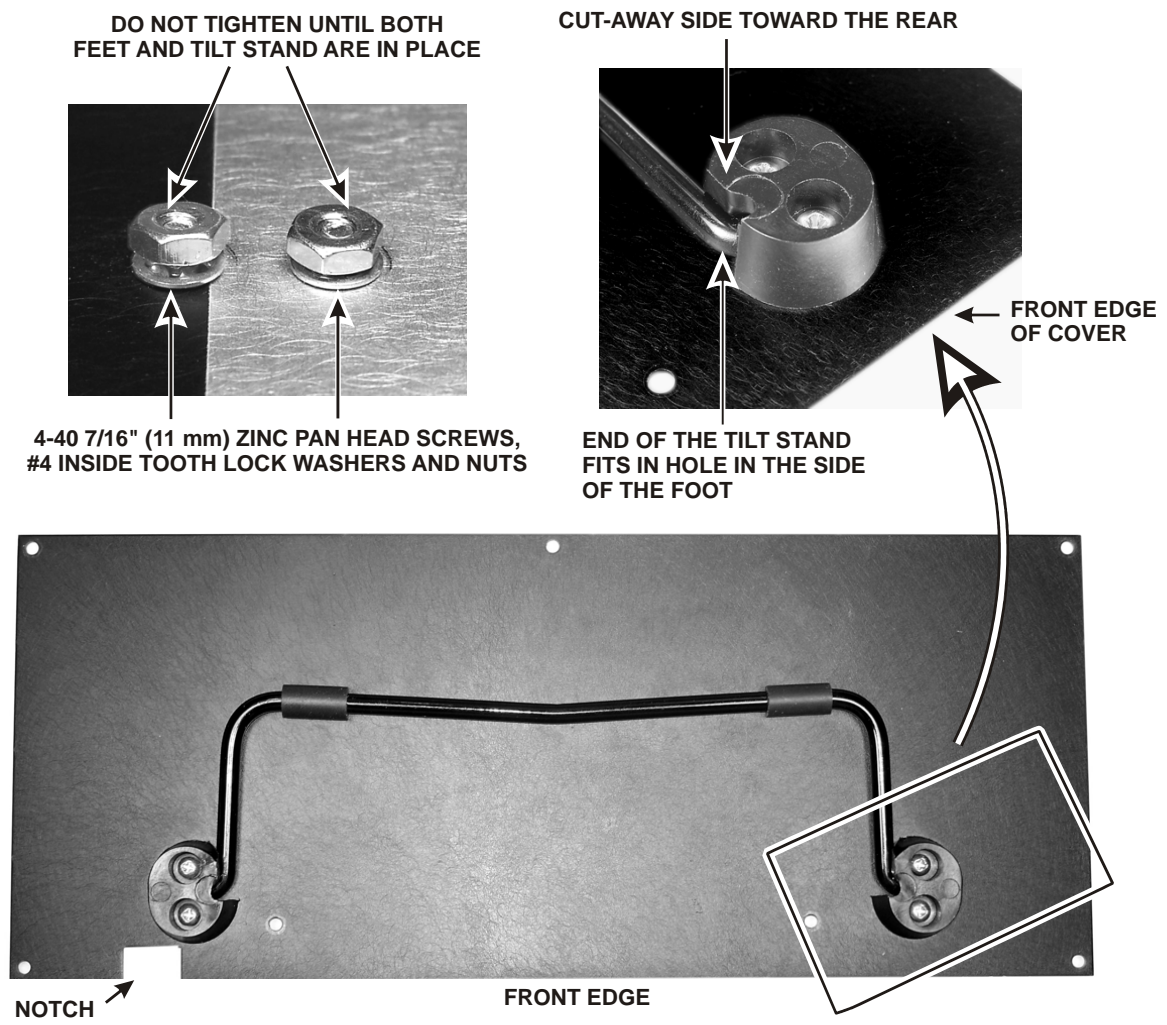

Figure 71. Installing Tilt Stand.
- Identify the bottom cover forward section by test fitting it on the bottom of the K3. The forward section is the thinner panel with a notch along one edge (see Figure 71).
- Attach one tilt stand foot to bottom cover section A as shown in Figure 71 using a 4-40 7/16" (11 mm) zinc pan head screw. The foot goes on the fully-painted side of the cover, oriented as shown. Be sure the cut-away side of the foot is farthest from the edge of the panel and the hole for the tilt stand faces the holes for the other foot. Use a #4 inside tooth lock washer and #4 nut to secure each screw. Do not tighten the hardware. Start the nuts onto the screws only a few turns so the foot is free to move about.